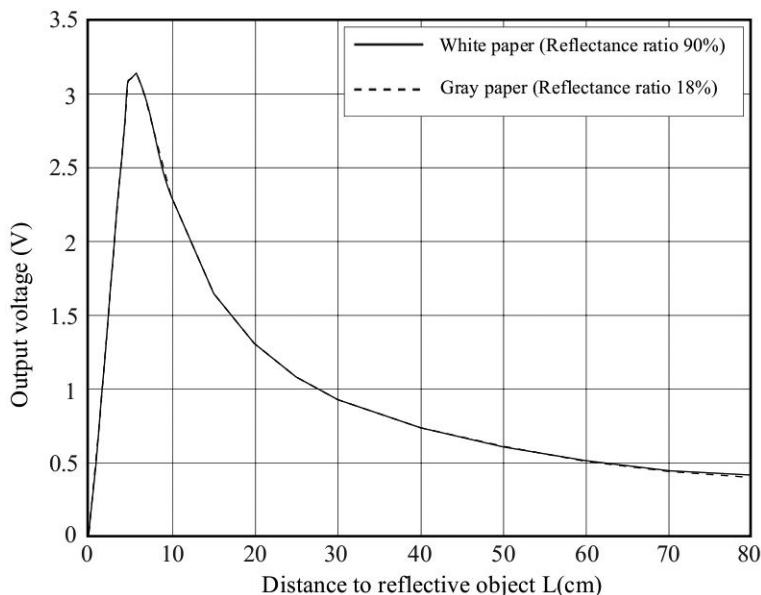

Figure 12-24: Graph of IR sensor distance versus output voltage
To wire the sensor, connect the red and black wires on the sensor to 5 V and GND, respectively, with the white wire connecting to an analog input pin on your Arduino. We'll use `analogRead()` to measure the voltage returned from the sensor. The graph in Figure 12-24 shows the relationship between the distance measured and the output voltage.
The sketch reads the voltage from the IR sensor at ① and then uses a series of if statements at ② to choose which approximate distance is being returned. We determine the distance from the voltage returned by the sensor using two parameters. The first is the voltage-to-distance relationship as displayed in Figure 12-24. Then, using the knowledge (from Project 6) that `analogRead()` returns a value between 0 and 1,023 relative to a voltage between 0 and around 5 V, we can calculate the approximate distance returned by the sensor.